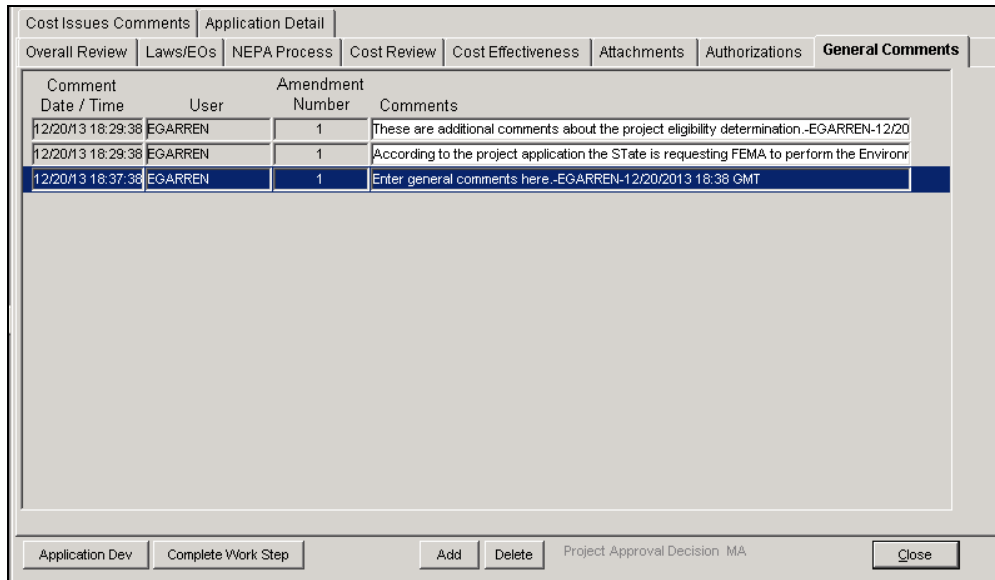

Figure 7-89: General Comments Tab with New Comments Added
- e. The **General Comments** tab is displayed with the newly-added comments (Figure 7-89).